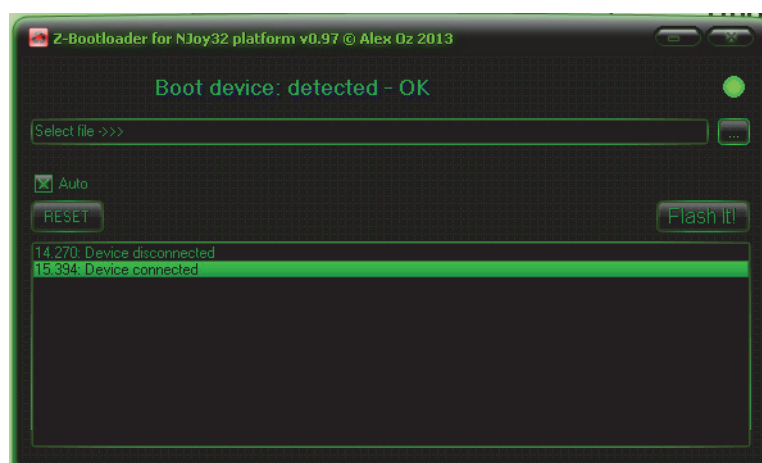

Fig. 2.3.
You will see firmware upgrade utility window (fig. 2.3)
5. You will see that device is connected (Fig. 2.3 on p. 14). Further actions are the same as described in sect. 2.2.1 on p. 14.